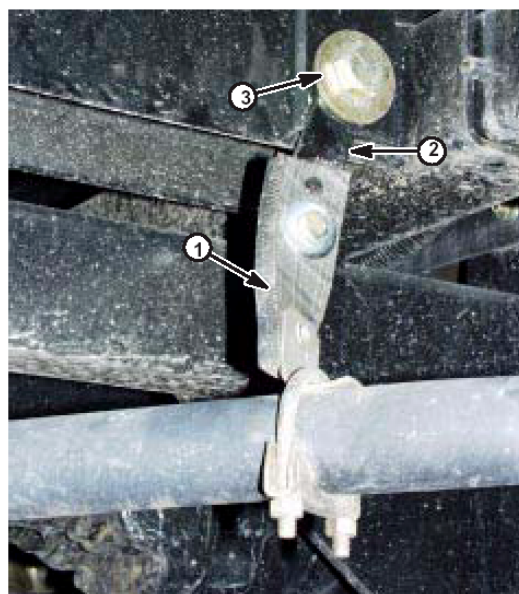

Figure 2
4. Using the right rear bolt securing tank saddle to vehicle (Fig. 2), install tailpipe lug and new tailpipe hanger strap. Use the 5/16" bolt and special washer (against the rubber strap's second hole), and flat washer and locknut against the tailpipe lug (Fig. 2).
5. Install clamp and support the extended tailpipe with hanger strap. Secure with a muffler clamp (Fig. 2).
6. Install hose shield on wire support on top of long tailpipe shield. Secure with Sta-straps (Fig. 2).